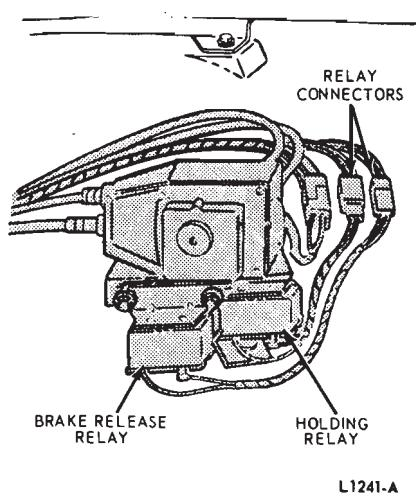

FIG. 5—Brake Release and Holding Relays, Installation—Lincoln Continental
1. Disconnect wires from harness at electrical connector (Fig. 5).
1. Secure the relay to its mounting plate with two self-tapping screws (Fig. 5).